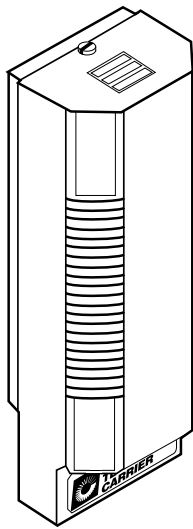

Fig. 39 — Air Quality (CO₂) Sensor (Wall Mount Version Shown)
Air Quality Sensors (Fig. 39) — The air quality (AQ) sensors are shipped inside the fan section for field installation. Two types of sensors are supplied; one sensor monitors the conditioned air space, and the other sensor monitors the return air duct. Both sensors use infrared technology to detect the levels of CO₂ present in the air.